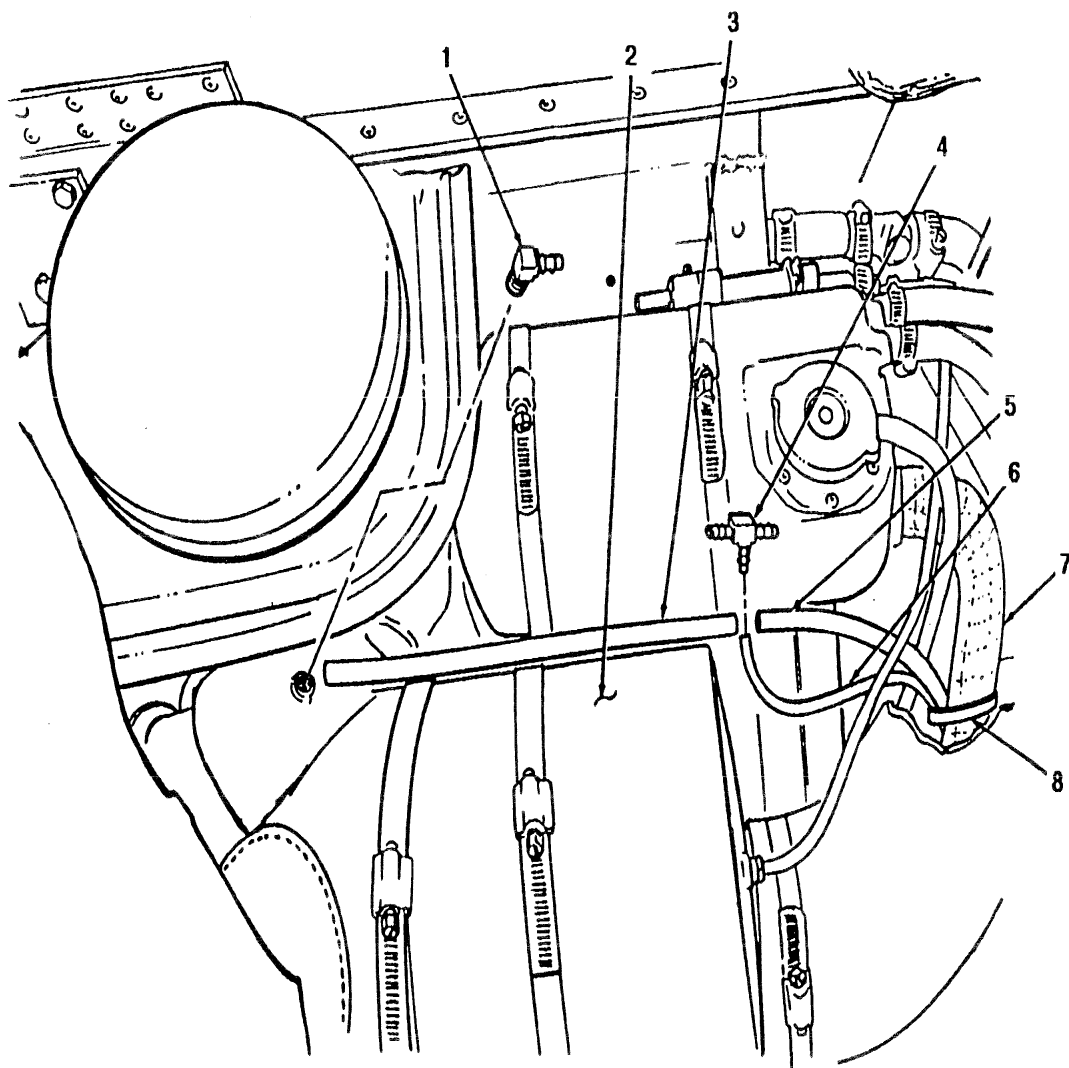

FIGURE 3-19
26. Remove elbow (1) from air cleaner (2). (see figure 3-19)
30. Connect hoses (5) and (6) to 1064X6X6X4 tee (4). (see figure 3-19)
31. Connect the 10.50-inch piece of hose (3) to tee (4).
32. Install NSN 4730-01-070-7680 elbow (1) in air cleaner (2).
33. Connect hose (3) to elbow (1) on air cleaner (2).
34. Using NSN 5340-01-205-5379 tiedown strap (8), secure hoses (5) and (6) to surge tank hose (7).